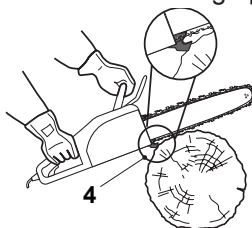

Fig. 21
5. Ensure the saw chain (8) is running at full speed before it makes contact with the wood. Use spiked bumper (4) to secure the product onto the wood before starting to cut and use it as a leverage point while cutting (Fig. 21).